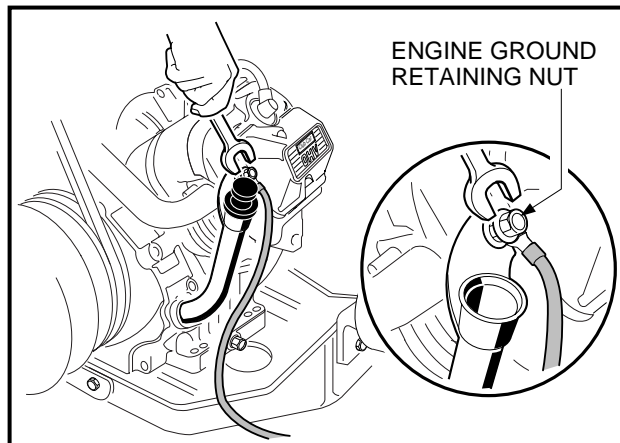

Figure 16-17 Engine Ground Wire
3.7. Disconnect the engine ground wire from the oil filler tube mounting bracket (**Figure 16-17, Page 16-10**).